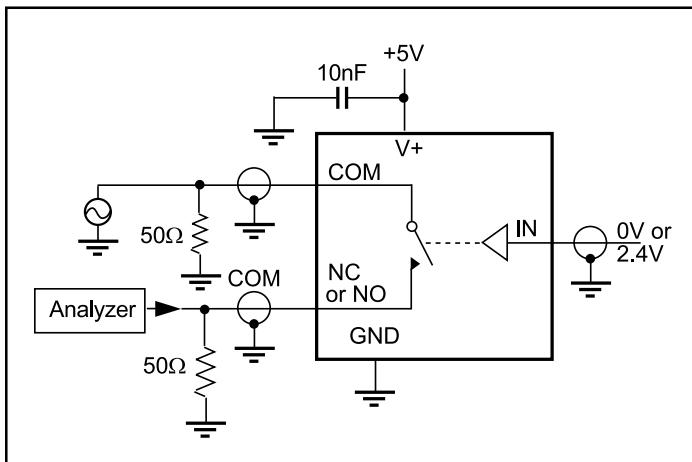

Figure 3. Off Isolation
- Off Isolation = $20 \log_{10} [V_{COM} / (V_{NO} \text{ or } V_{NC})]$. See Figure 3.